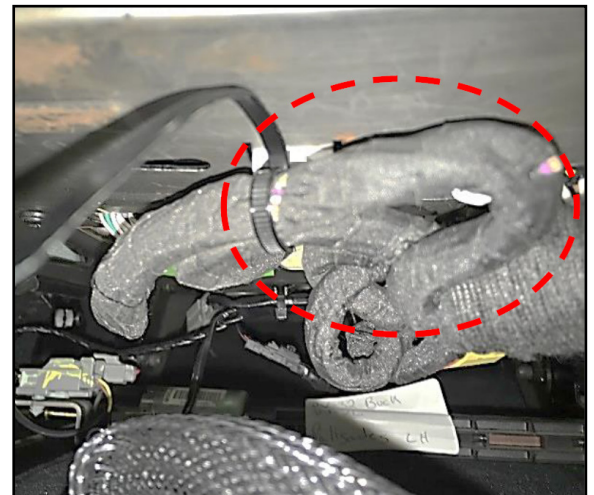

fig. 5
-Fold back the excess harness length (red circle) and secure it out of the way, as shown (fig. 5)